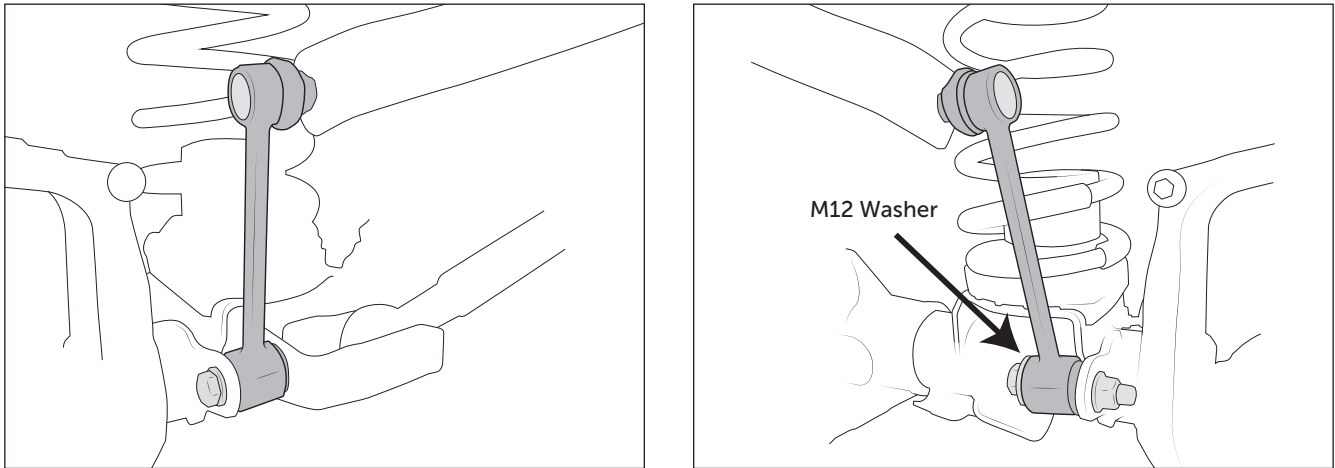

Figure 19
- A. For each side attach the upper end stud to the sway bar in the same manner as the original front links had been (nut on frame side of bar). NOTE: The upper stud has a different thread than the rest of the M12 fasteners in the suspension—it is a "standard" pitch versus a "fine pitch." Tighten to 40 ft-lbs. (Fig. 19).
- B. The lower ends of the links will attach in the factory location using the original hardware, with AEV-provided washer added to the inboard side of driver side link only (Fig 19). Washer is not needed on passenger side because it has brackets on both sides of bushing. Torque to 40 ft-lbs.